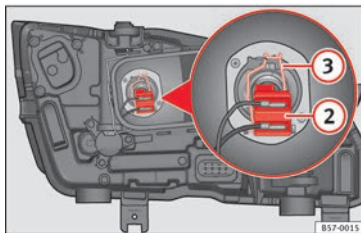

Fig. 103 In the engine compartment: dipped beam headlight.
3. Remove connector » **Fig. 103** **2** from the bulb.
4. Unclip the retainer spring » **Fig. 103** **3** pressing clockwise and inwards.